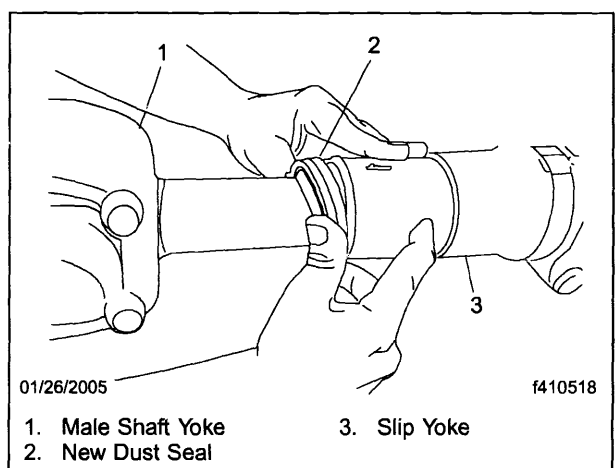

Fig. 6, Installing the New Dust Shield
- 2.3 Snap the dust seal over the end of the slip yoke. See **Fig. 6**.